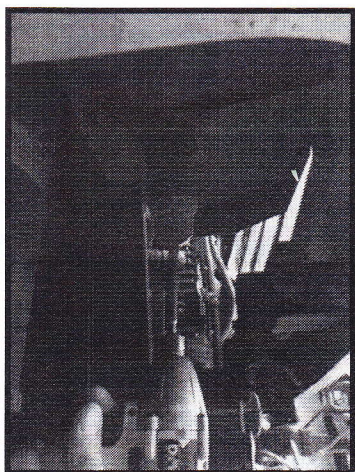

Figure 3
3. Measure and remove 14mm ($\frac{1}{2}$ ") of the lower portion of the plastic drain tube to expose the inside diameter of the tube. This can be performed using a cut-off wheel or saw blade. May also use 37mm ($1\frac{1}{2}$ ") drill bit as shown in Figure 3.